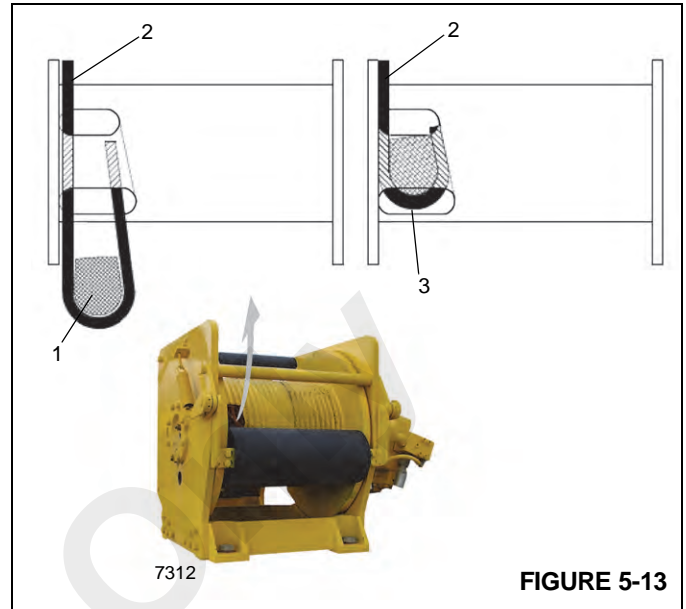

FIGURE 5-13
3. Insert the cable through the slot and position around the anchor wedge (1) Figure 5-13.